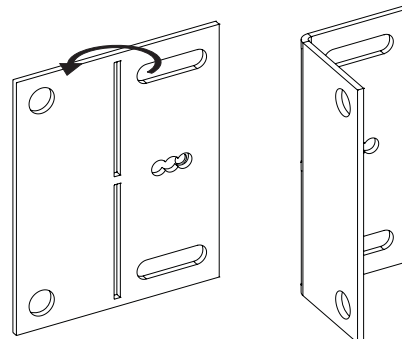

Figure 16
7. Bend the nailing flanges 90 degrees as shown in **Figure 16.**